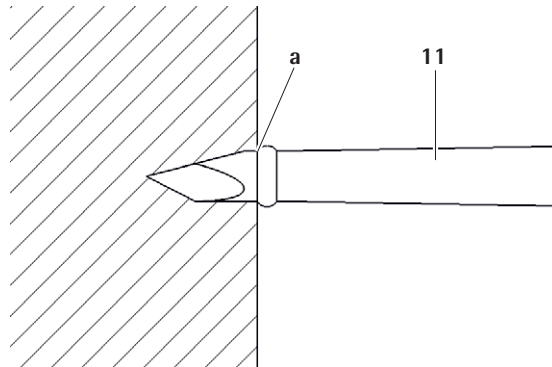

Fig. 1
- ▶ Use the center punch 11 (SZ050R) to open the cortex. A raised edge **a** is provided on the center punch, to indicate when the ideal depth has been reached, see Fig. 1.